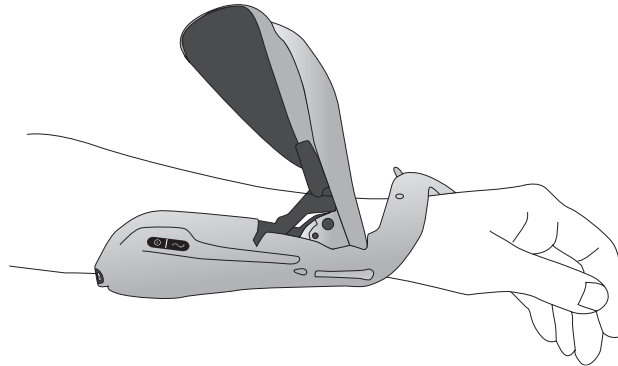

Figure 6-6: Positioning the Orthosis
2. Bring the Orthosis around the forearm, and position the flexor support on the forearm. See Figure 6-6.